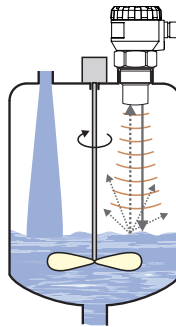

Fig. 9: Moderately stirred surface
- During filling, mixing and other processes, **foam** can arise on the level of the measured liquid. The foam considerably absorbs the radio signal which might cause malfunction of the level meter (Fig. 9). For such cases, it is necessary to set up "SENSITIVITY" mode to "high" or contact the manufacturer if need. In case of a thin layer of foam, it is also possible to use the directional horn for improving receipt of the reflected echo.
- Scattering or attenuation of the radio signal can result if the level has been **moderately stirred** or **rippled** (by a mixer, coming liquid etc.). It can result in reduction of the measurement range or unreliable function of the level meter (Fig. 9).